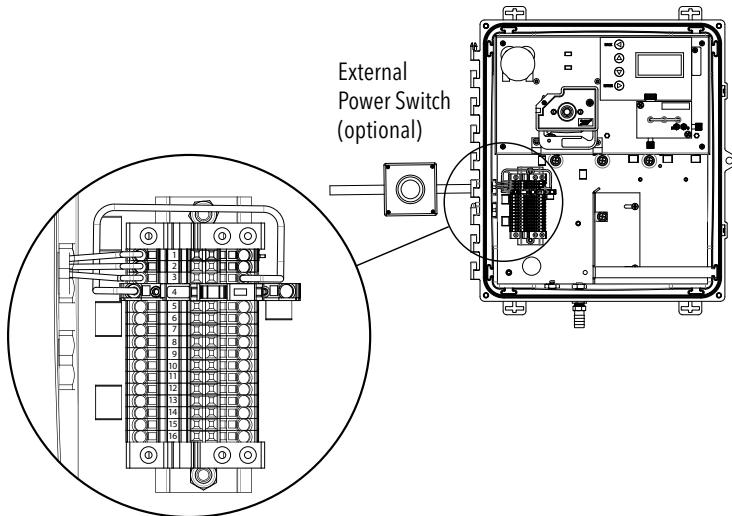

Figure 3: 3017M terminal block and external power switch
6. The terminal block connectors are opened by pushing the 1/16" screwdriver into the small, square opening adjacent to the opening for the wire. See **Figure 3**.